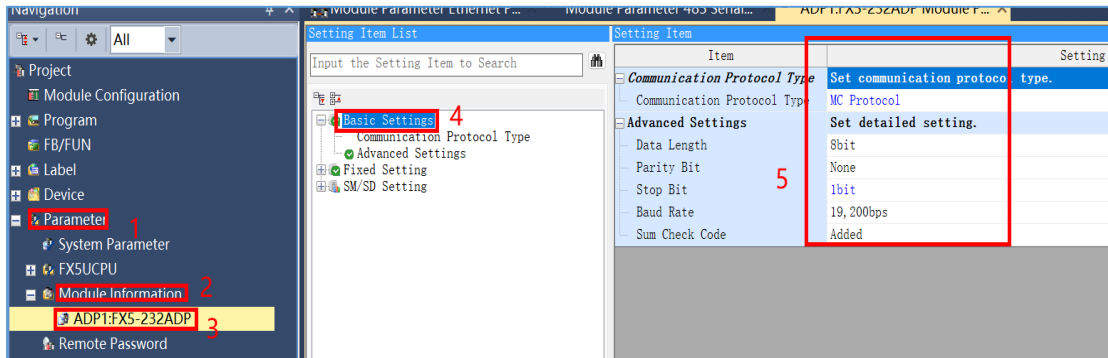

Figure 6
- (1) Select "Parameters - Module Information - ADP1:FX5-232ADP - Basic Settings". and refer to Figure 6 for specific settings;